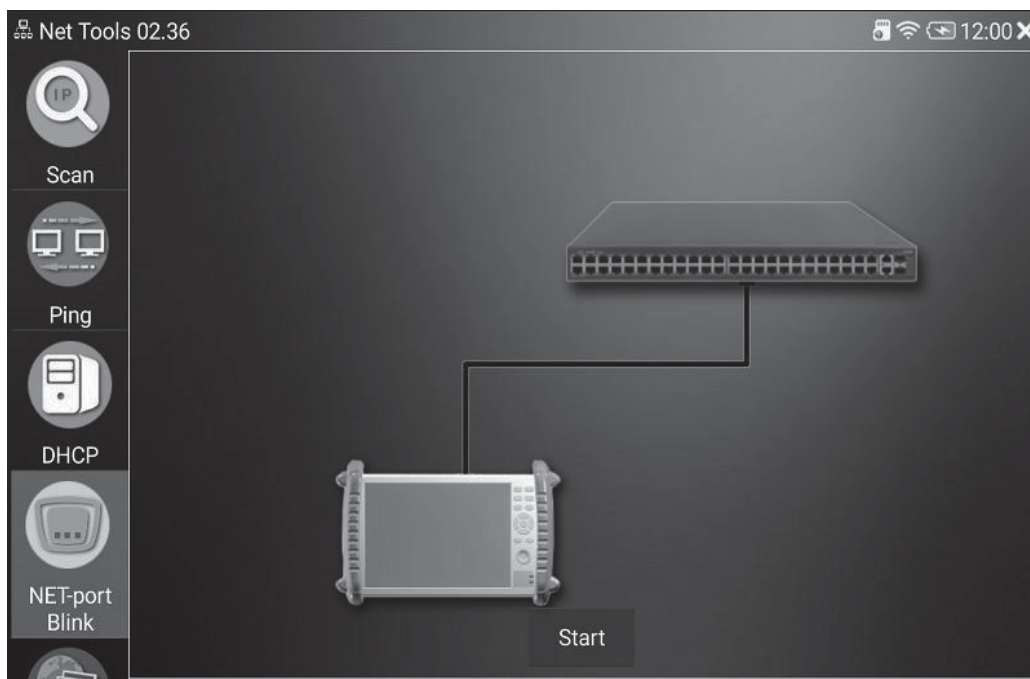

Figure 30
3)NET-port Blink function: Connect one end of the cable to LAN port, touch 'Start' button then you can see the port on network device blink regularly, it's easy to find the other end of a cable by this function, port blink period is 2 seconds, as shown in Figure30